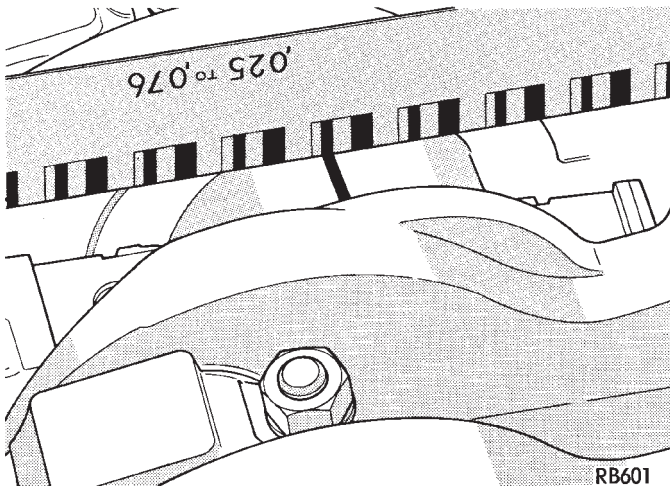

Fig. 8 Measuring Bearing Clearance with Plastigage—Typical
- (1) Remove oil from journal and bearing shell.
- (2) Install crankshaft.
- (3) Cut plastigage to same length as width of the bearing and place it in parallel with the journal axis (Fig. 8).
- (4) Install the main bearing cap carefully and tighten the bolts to specified torque.
- (5) Carefully remove the bearing cap and measure the width of the plastigage at the widest part using the scale on the plastigage package (Fig. 8). Refer to specification (Fig. 6) for proper clearances. If the clearance exceeds the specified limits. Replace the